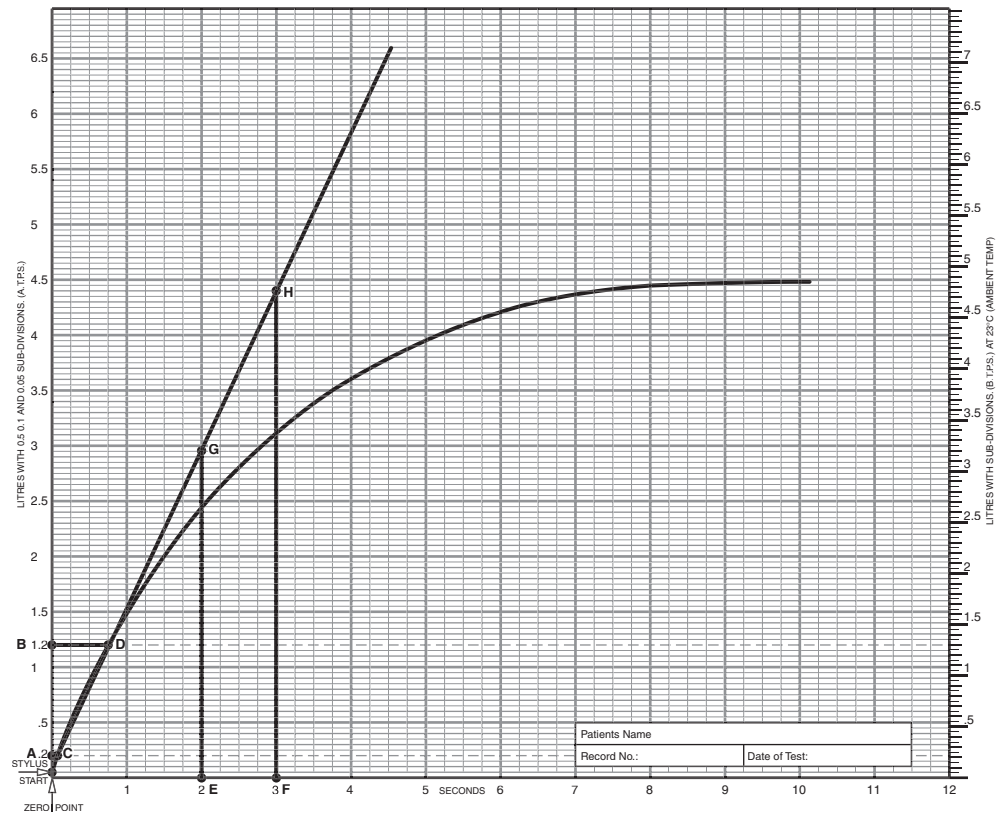

Figure 2-12 Determining the one-second interval on graph paper (points E, F) and spiograph tracing (points G, H).
- Figure 2-12 Step 4. Along the time (x) axis, select two adjacent second-lines and mark them points E and F. In the example shown, the 2nd and 3rd second-lines are used. One may use the 3rd and 4th second-lines. The result would be identical as these two sets of adjacent lines intersect the same slope.